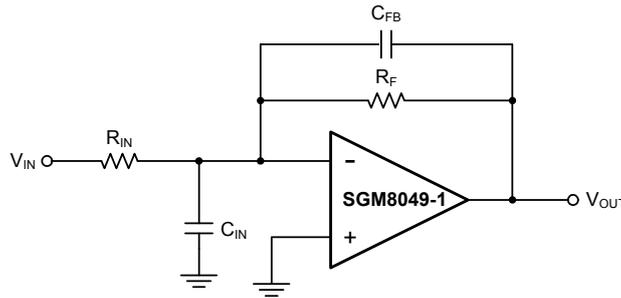

**Figure 3. Series Resistor in Unity-Gain Buffer Configuration Improves Capacitive Load Drive**
Follow configurations with load capacitance in excess of 30pF can produce extra overshoot and ringing in the output signal. Increasing the gain enhances the ability of the amplifier to drive greater capacitive loads. In unity-gain configurations, capacitive load drive can be improved by inserting a small (10Ω to 20Ω) resistor,  $R_S$ , in series with the output, as shown in Figure 3. This resistor significantly reduces ringing while maintaining direct current (DC) performance for purely capacitive loads. However, if there is a resistive load in parallel with the capacitive load, a voltage divider is created, introducing a DC error at the output and slightly reducing the output swing. The error introduced is proportional to the ratio  $R_S/R_L$ , and is generally negligible.